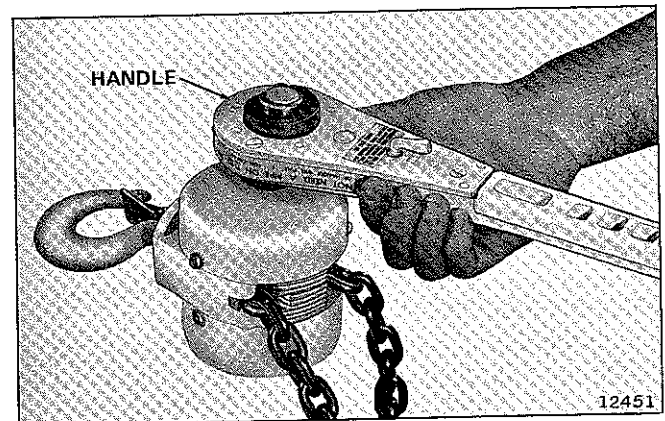

Figure 6-5. Removing Handle
d. Grip hoist firmly with one hand and lift handle evenly upward with a hard pull. When handle comes off a small steel ball may fall from the shaft. Make certain that steel ball is replaced when hoist is reassembled (Figure 6-5).